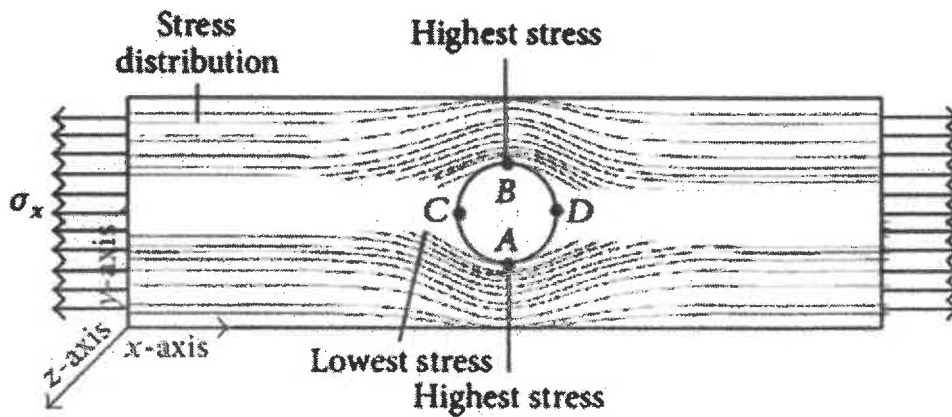

Figure 6: Stress Distribution for Metal Plate
*Refer Below - Figure6 : Stress Distribution for Metal Plate .*